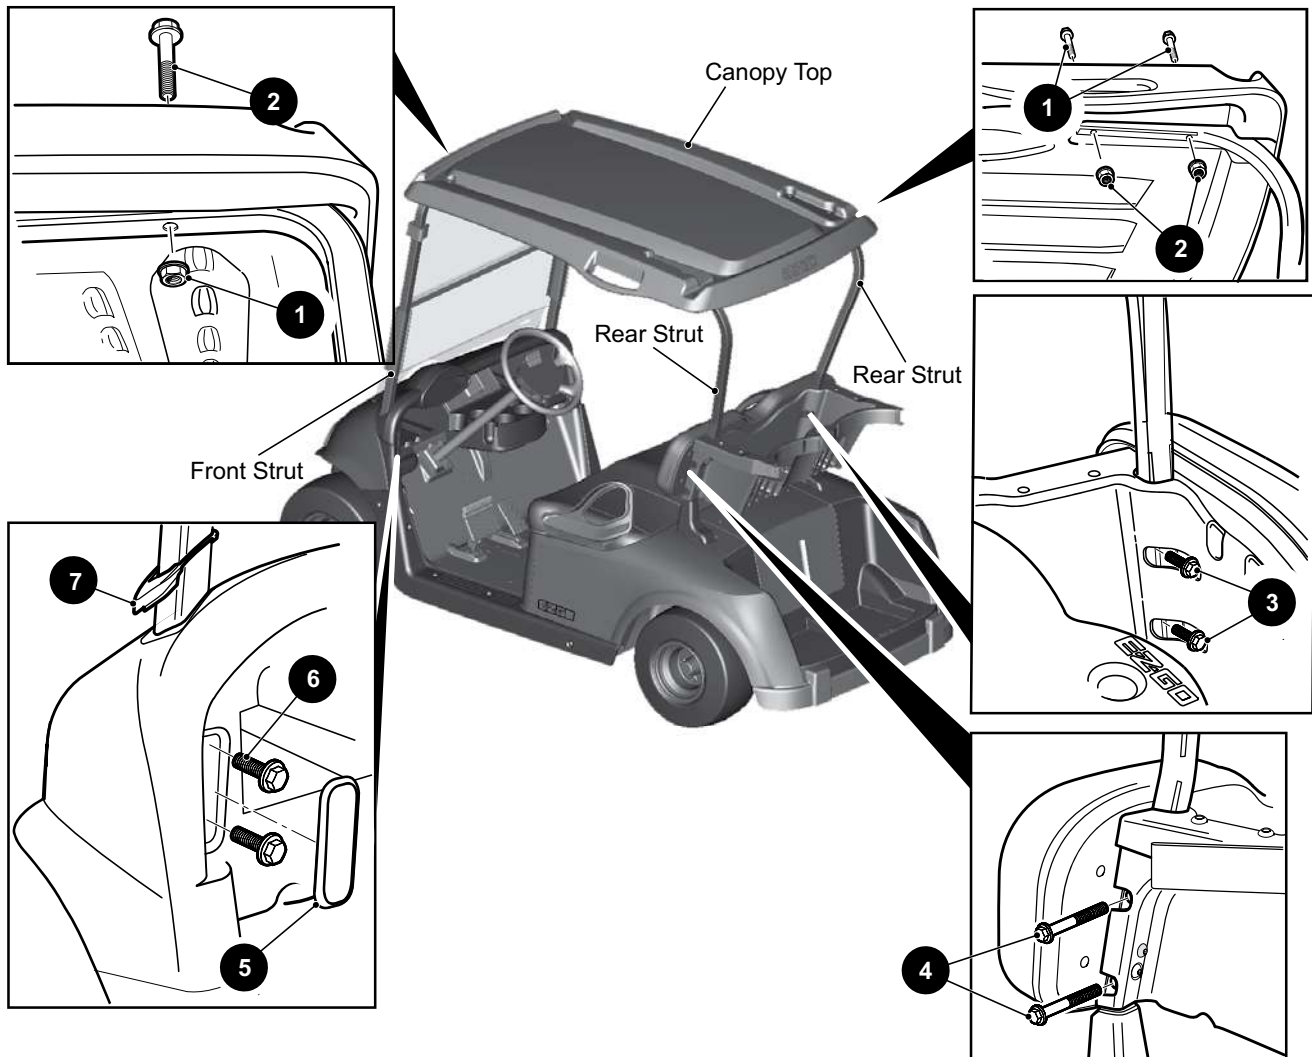

Figure 3 Golf Car Canopy
1. Remove six hex nuts (1) and the hex bolts (2) securing the top to the struts (Figure 3).
3. Remove the access cover (5) by sliding a flat screwdriver under the edge of it and prying it away from the instrument panel, repeat for the other side.
4. Remove the two hex bolts (6) from each side that secure the front strut to the vehicle, lift the strut up until it clears the instrument panel and cowl.
5. Remove the rubber grommets (7) from the front strut holes if they did not come off with the struts.
6. Remove four hex nuts (3) from inside the sweater basket then remove the four hex bolts (4) that slide through the rear top strut, lift the strut up to clear the sweater basket. Repeat for the other side